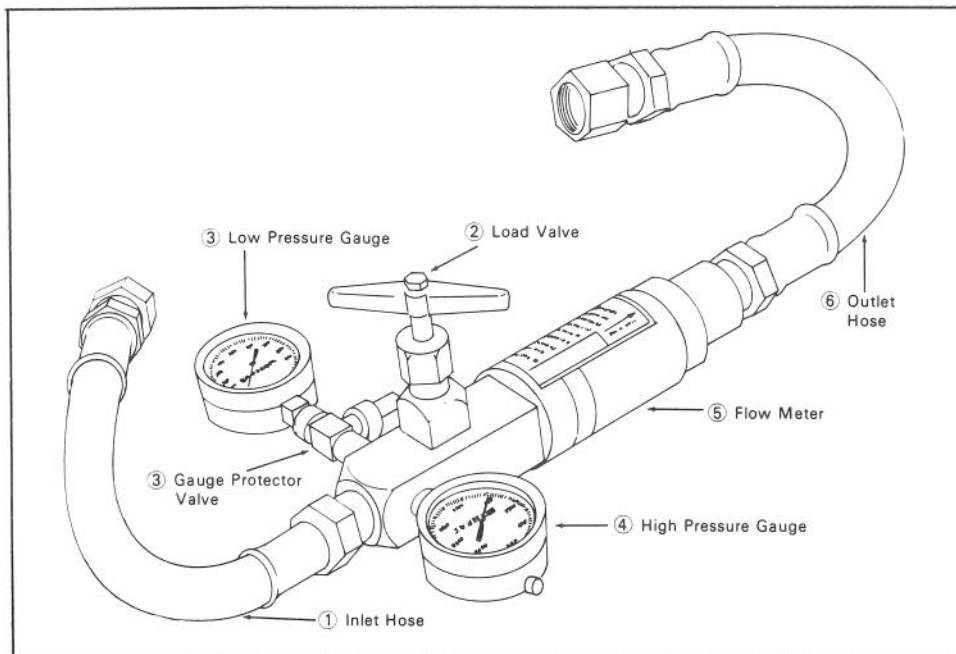

Figure 65
1. **INLET HOSE:** Hose connected from system circuit to inlet side of hydraulic tester. (Fig. 65).
2. **LOAD VALVE:** If required, upon turning the valve to restrict flow, a simulated working load is created in the circuit. (Fig. 65).
3. **LOW PRESSURE GAUGE:** Low range gauge to provide accurate reading at low pressure. This gauge has a protector valve which cuts out if pressure exceeds the normal range for the gauge. The cut out pressure is adjustable. (Fig. 65).
4. **HIGH PRESSURE GAUGE:** High range gauge to accommodate pressure beyond the capacity of the low pressure gauge. (Fig. 65).
5. **FLOW METER:** This meter measures actual oil flow in the operation circuit. This reading is given in gallons per minute, GPM (Fig. 65).
6. **OUTLET HOSE:** Hose from outlet side of hydraulic tester connected to system circuit (Fig. 65).